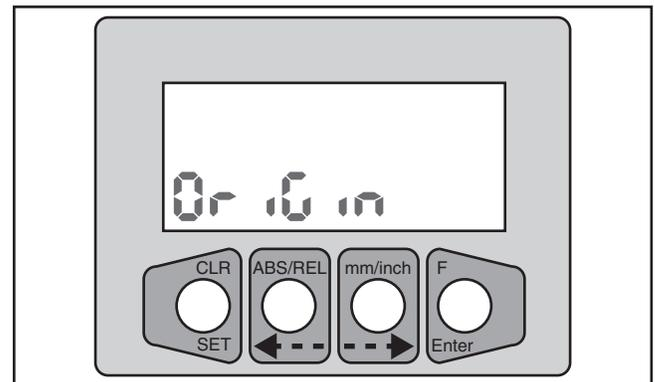

Figure 38. Origin screen.
1. Press and hold the F/ENTER  key until the "Origin" screen appears as in Figure 38.